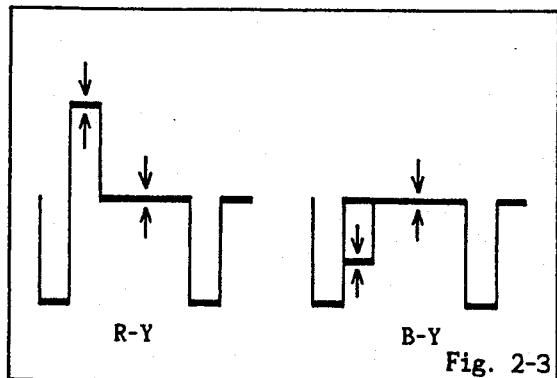

Fig. 2-3
3. Adjust L603 and VR601 until the waveform will be straight line. (Refer to Fig. 2-3)